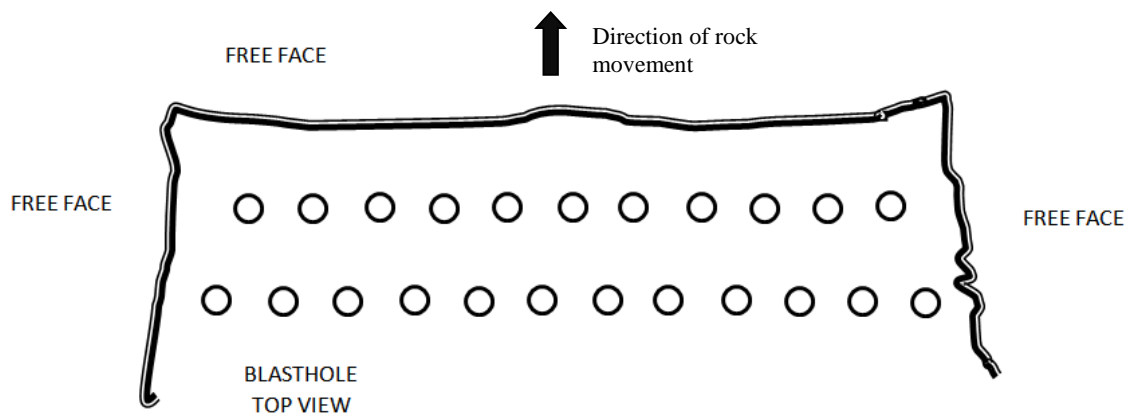

Figure 1/ *Rajah 1*
- (i). **Maximum** of two (2) holes per delay (Figure 1).
*Maksimum dua (2) lubang per lengah (Rajah 1).*